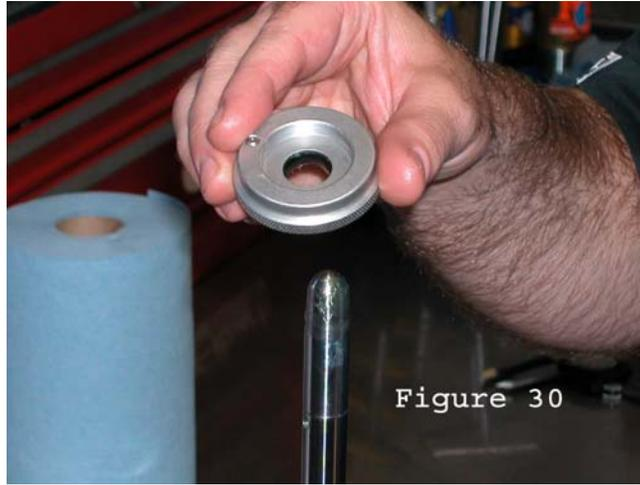

Figure 30
65. Lubricate the seal bullet tool with assembly lube. Slide the bearing cap onto shaft with the threaded side facing away from the shaft eyelet. **(Fig. 30)** This should be done in a single smooth motion to avoid damaging the seal. If seal hangs up on the